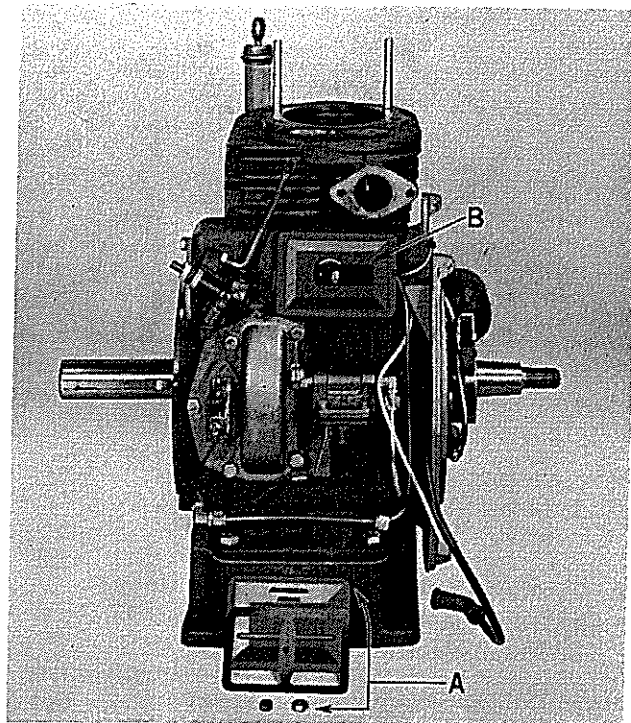

Figure 21
- a. The correct order of breather assembly is as follows: (Figure 21).